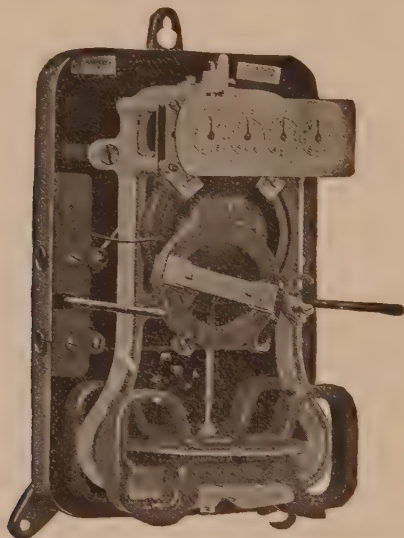

FIG. 77. Interior of General Electric Thomson watt-hour meter.
**35. Watt-hour Meter.** An instrument for measuring the electrical energy delivered to a customer is shown in Fig. 77. It is merely a small electric motor so arranged that the dials register the number of kilowatt-hours which pass through it. For a description of this instrument and a detailed explanation of the principle upon which it operates, see Chapter IX and the author's "Elements of Electricity."